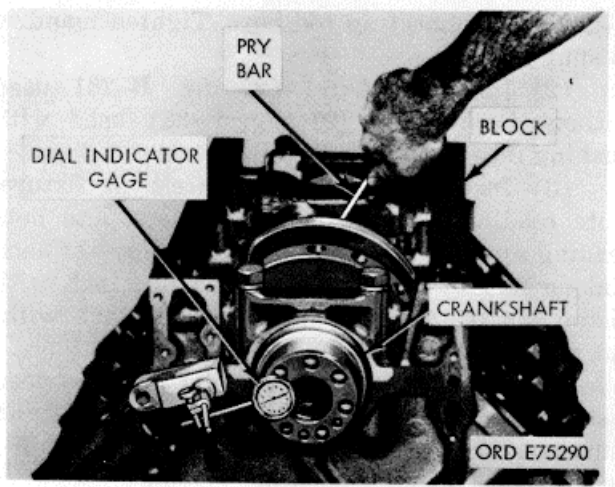

Figure 3-6. Crankshaft end clearance check.
- (1) Using a suitable holder attach a dial indicator to rear of block (fig. 3-6) with gage plunger resting against flange face.
- (2) Using a pry bar move shaft to front of block.
- (3) Set gage to zero.
- (4) Move shaft to front of block and observe gage reading.